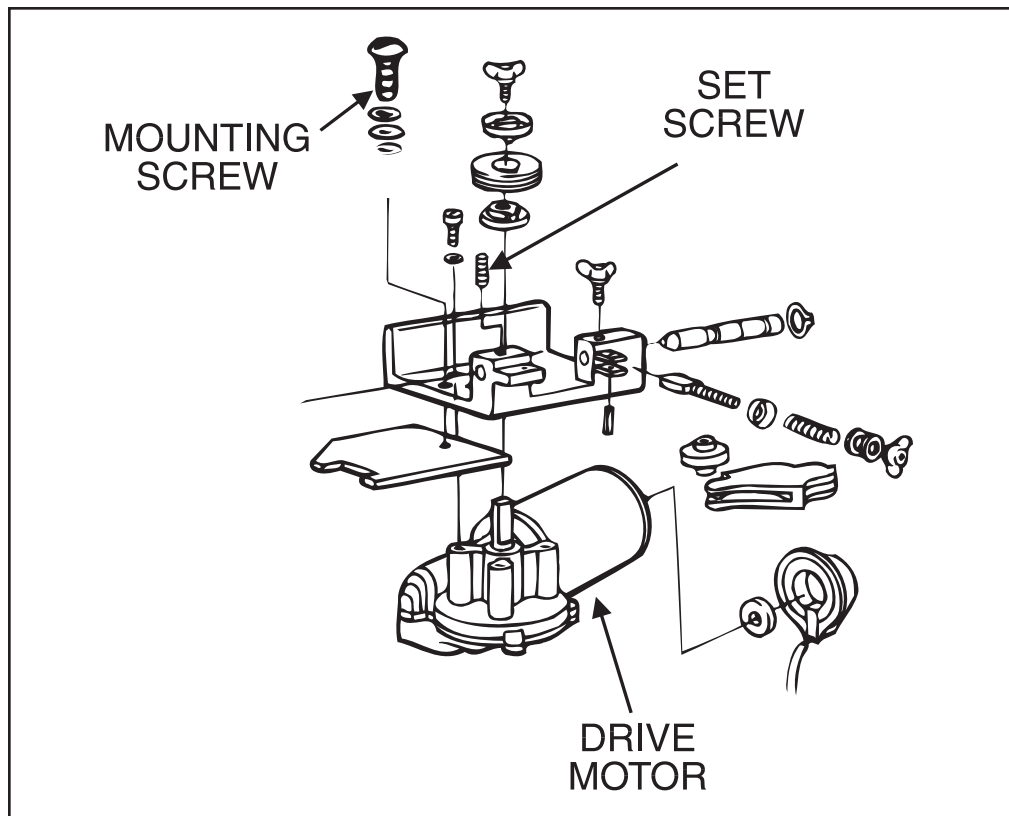

FIGURE F.11 - Wire Drive Assembly Removal
3. Remove the large mounting screw with a large slot head screwdriver located in front of the drive roll. See Figure F.11.